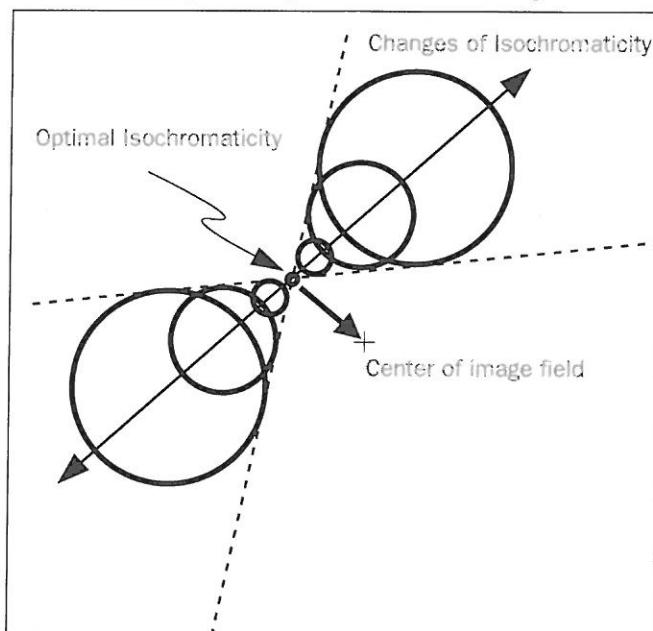

Fig. 5.34 Diagram of image cutting change in Isochromaticity adjustment
9. Observe how the size and position of the bright part of the image change when you click on Isochromaticity (Fig. 4.42-⑯) in the Filter Tuning window and confirm that the image changes as shown in Fig. 5.34.